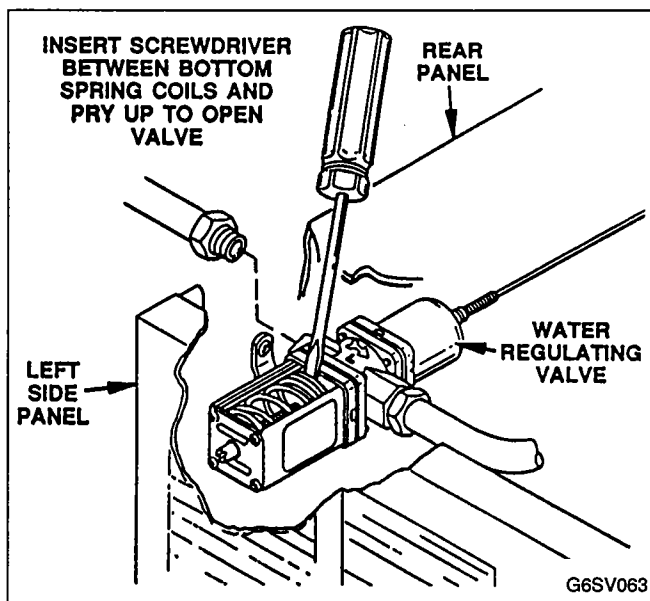

FIGURE 63. MANUALLY OPENING WATER REGULATING VALVE
3. Pry open water regulating valve by inserting large standard screwdriver between bottom spring coils of valve. Pry spring upward to open valve, Figure 63.